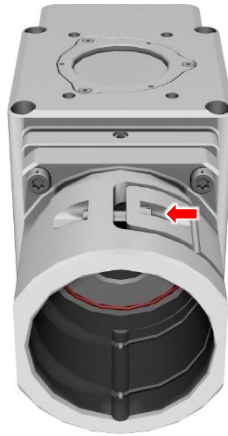

Figure 11: Clamping the collimator to the LIA
9. Clamp the collimator by tightening this screw; see Figure 11 on page 47.